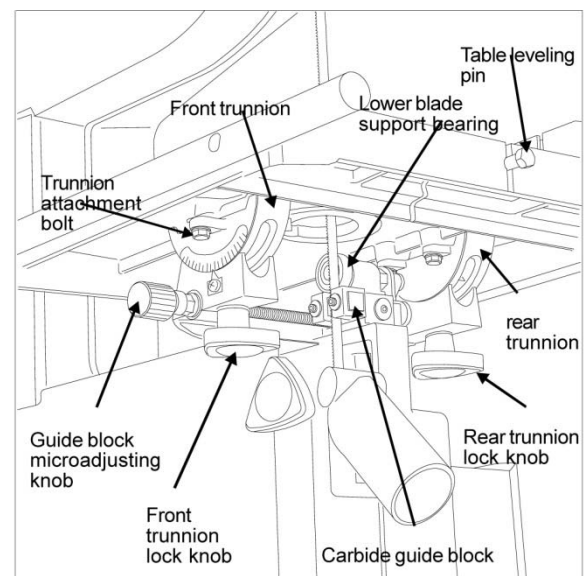

Figure 14: Lower Blade Guide Support – Front View
4. Remove table leveling pin. The pin has a tight push fit in its slot; it is not threaded. (Refer to Figure 14.)